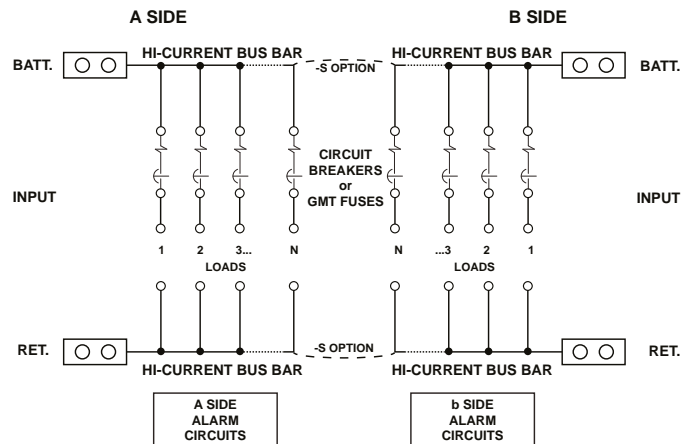

Figure 2. Distribution Block Diagram
6.1 Power Distribution Circuits. A simplified schematic diagram of the distribution panels is shown in Figure 2. The battery input to each load connects to a high-current copper bus bar from which the individual fuses or circuit breakers distribute power to the loads. The return input connects to a similar bus bar to which the individual loads terminate. The A and B loads are totally independent and isolated with the exception of models incorporating the 'S' option.